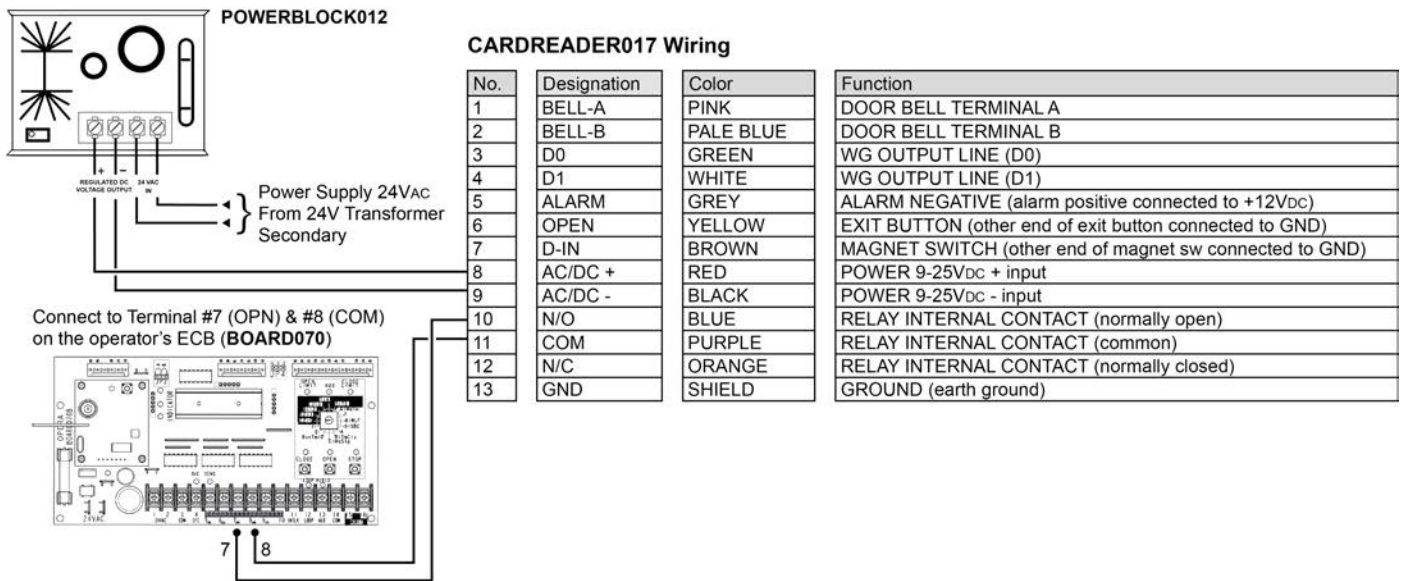

Figure 2 - CARDREADER017 and POWERBLOCK012 Wiring Schematic
4. Make sure the connections are per the job site requirements and the wiring schematics, refer to Figure 2, p.2.